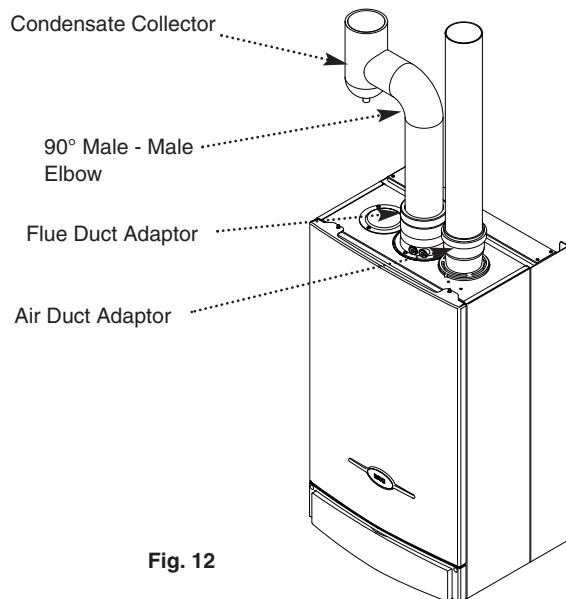
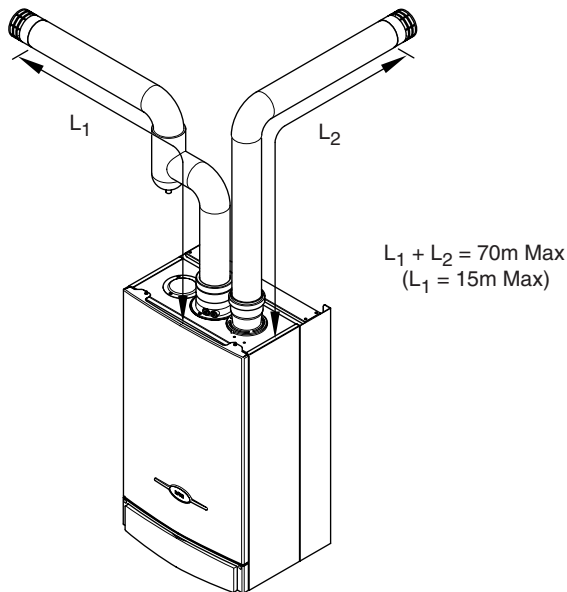

Fig. 12
Fig. 15
1. The flue duct adaptor, air duct adaptor, 90° male - male elbow and condensate collector are supplied in a separate pack (Fig. 12). Also in the pack are two terminals and fixing screws for use with separate termination installations (see Section 7.13, Fig. 15).
1. The Baxi Combi 80 Maxflue can be fitted with flue systems as illustrated (Figs. 15 & 16).